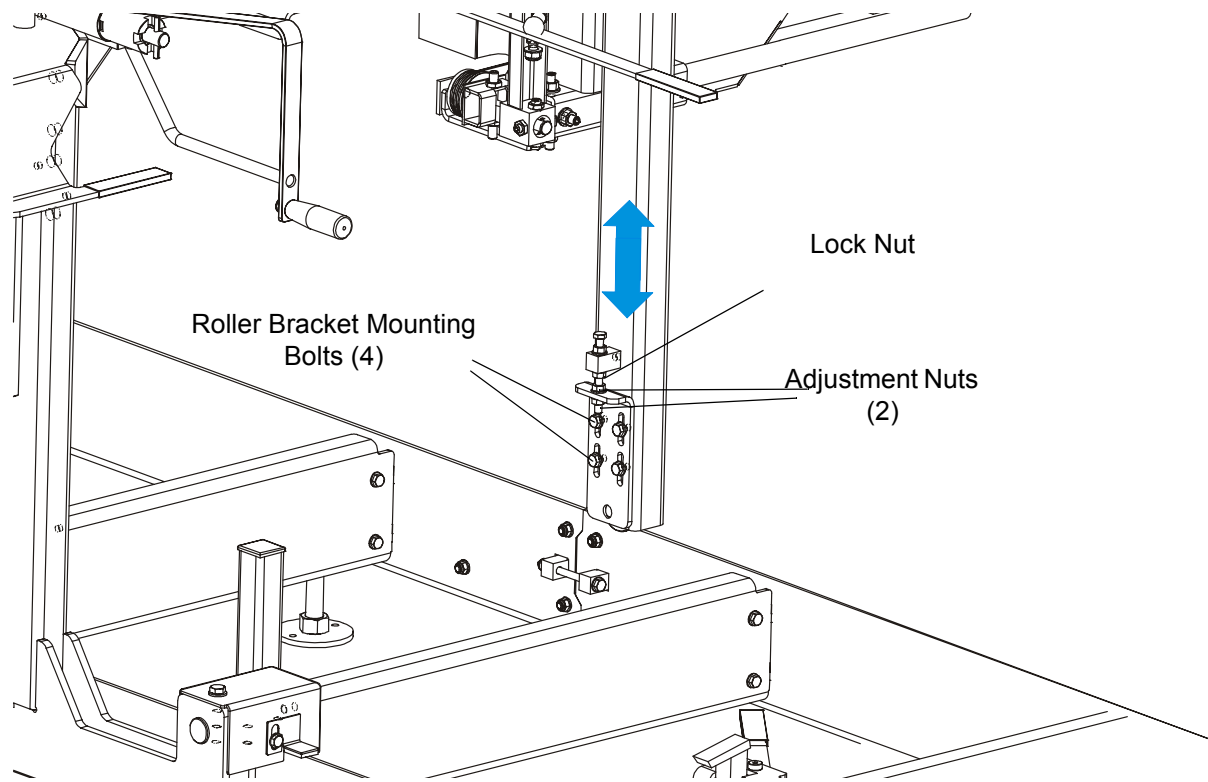

FIG. 3-2
**See Figure 3-2.** When the blade is parallel to the bed, it will measure the same distance from the bed rail at the inside and outside of the saw head. To adjust the saw head tilt, loosen the four mounting bolts of the roller bracket. Use the saw head adjustment nuts located in the roller bracket to tilt the saw head.